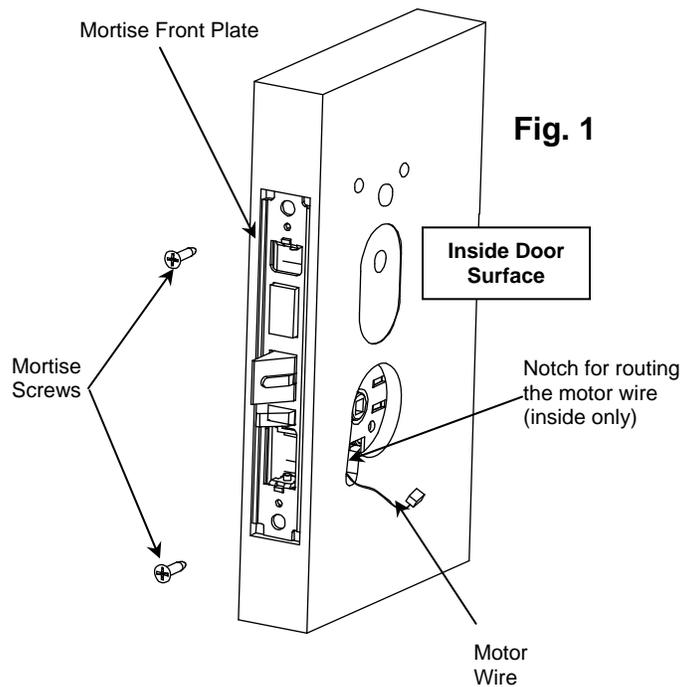

Fig. 1
- The mortise plate has an adjustable bevel. Align the mortise front plate with the bevel of the door edge and tighten the two bevel adjustment screws at the top and bottom of the mortise case. Position the mortise case in the door edge with the motor wire routed through the notch (see Fig. 1).